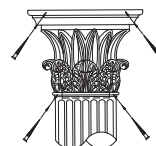

Figure 1
- Decorative capitals should be anchored to the soffit by pre-drilling and using a toenailing attachment. Use stainless steel screws and seal with waterproof silicon caulk. See Figure 1.